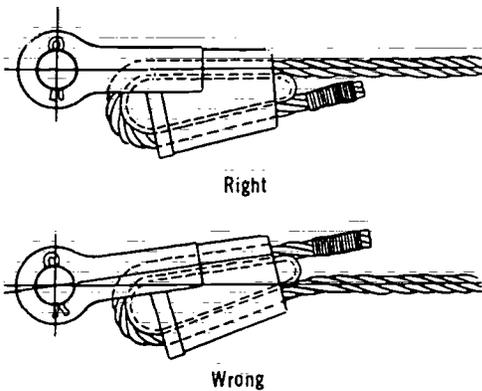

Figure 7-88. Applying a Wedge Socket
**Application of Wedge Socket** The wedge socket must be applied so that the line of stress follows the **live** portion of the rope (Figure 7-88).